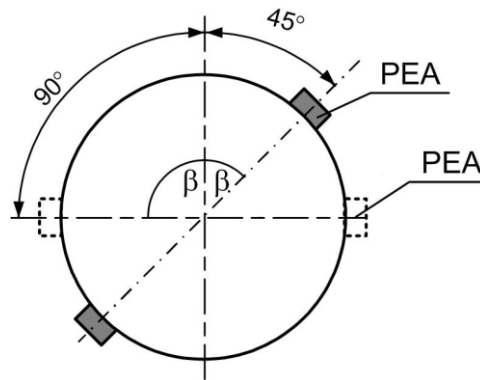

Fig.5. Recommended locations of PEA pair
2.3.2.3. When mounting the CP on the pipeline, it should be placed so that the PEA longitudinal axis (the axis that runs through the PEA pair along the pipeline axis) would make an angle with the vertical of $\beta = 45^\circ - 90^\circ$ (Fig.5).